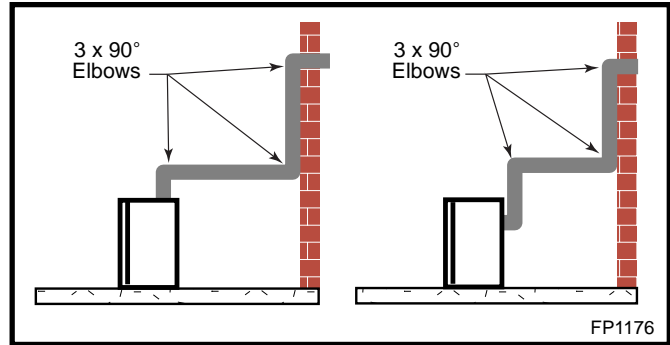

Fig. 23 Maximum three (3) 90° elbows per installation.
- The maximum number of 90° elbows per side wall installation is three (3). (Fig. 23)